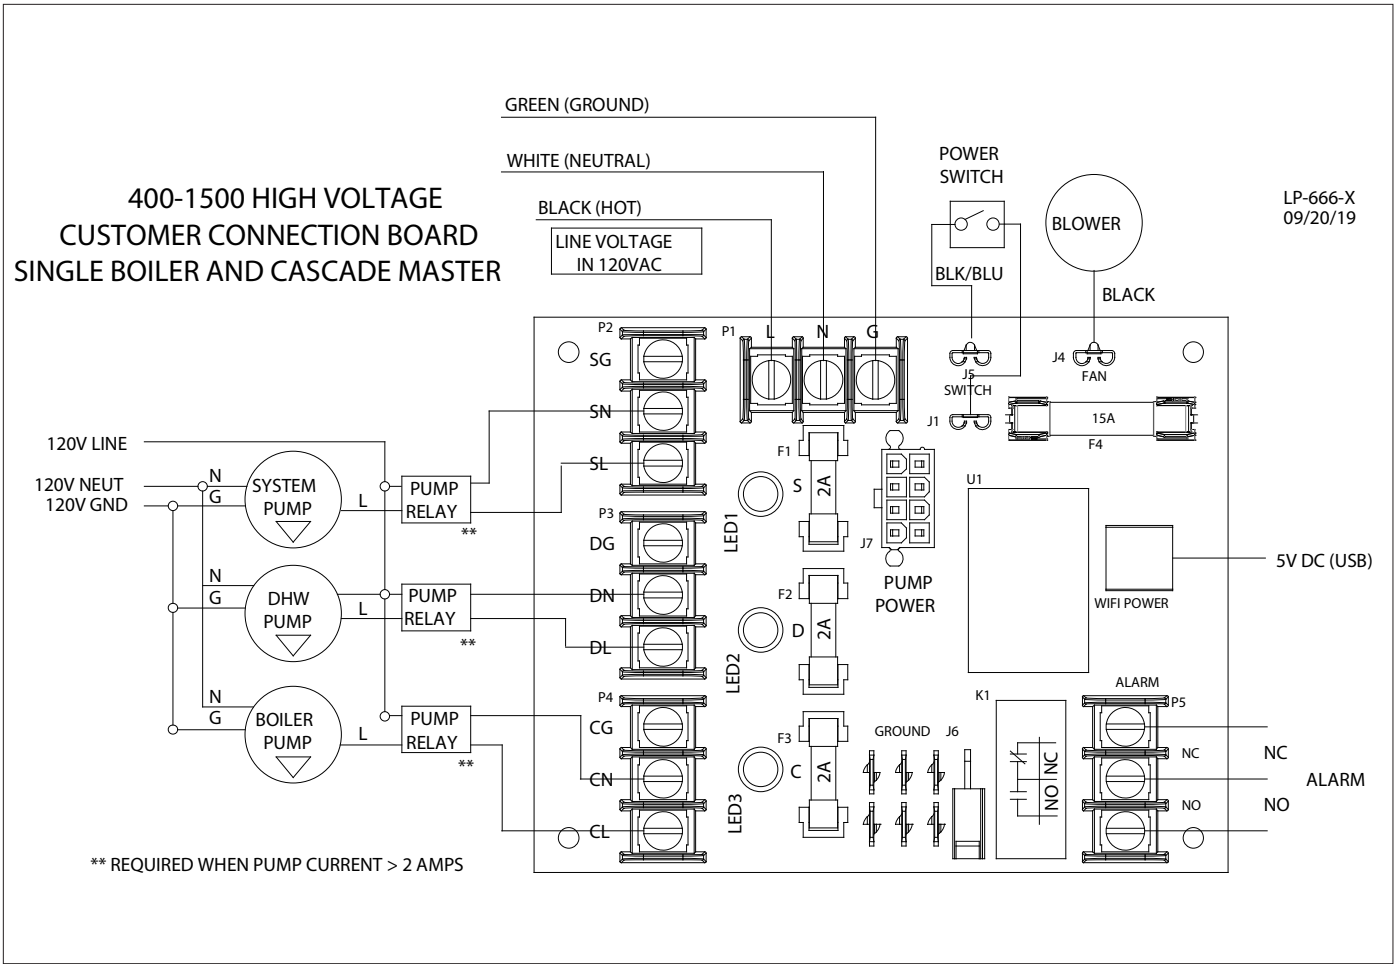

Figure 30 - Cascade Master and Single Boiler High Voltage Wiring - 400 - 1500 Models
1. Connect the room thermostat to the terminals marked TT- and TT+ of the Field Connection Board (shown in Figure 30). Alternately, any dry contact closure across these terminals will cause the boiler to run. Caution should be taken to ensure neither of the terminals becomes connected to ground.
1. If using an outdoor sensor, connect wires for sensor to the terminals marked OUT- and OUT+, shown in Figure 30 of the Field
2. Connect the indirect tank sensor (7250P-325) to the terminals marked DHW- and DHW+, shown in Figure 30 on the Field Connection Board of the Master boiler.
**NOTE:** Shielded three-conductor cable may be used as an alternate method to connect cascade wiring. Connect the three wires of the shielded cable to the screw terminals labelled BUS A, BUS B, and BUS G. Observe proper polarity across all cascaded units. See Figure 30.
6. Connect the system pipe sensor to the terminals marked SYS- and SYS+. See Figure 30.
2. Connect a building management system or other auxiliary control signal to the terminals marked 0-10V+ and 0-10V- on the Field Connection Board (shown in Figure 30). Caution should be used to ensure that the 0-10V+ connection does not become connected to ground.